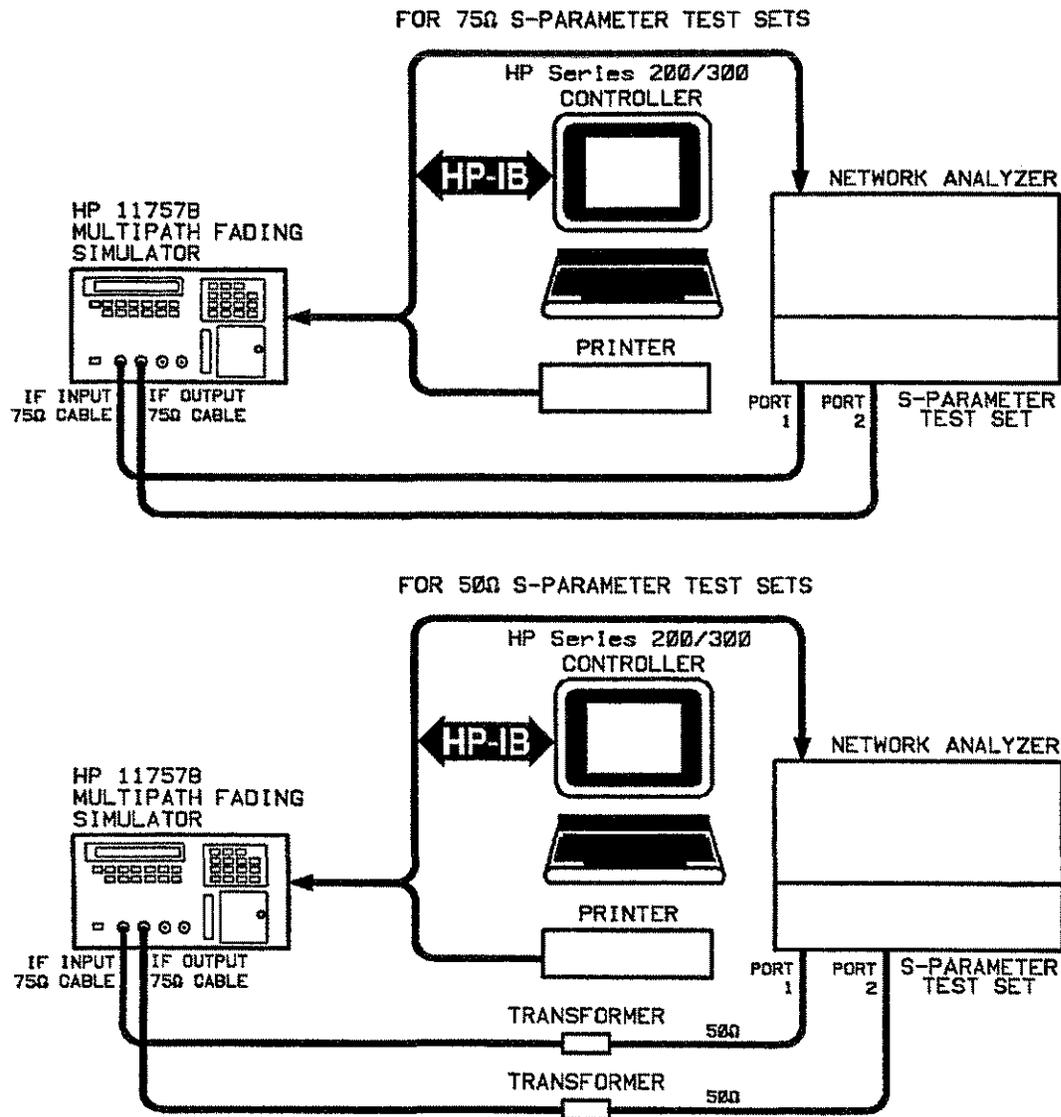

Figure 1-8. Automated Performance Test Setup
- Setup** 1. Connect the equipment as shown in figure 1-8.
9. When calibration is finished, reconnect the equipment as shown in Figure 1-8.
7. If any status is "Failed" highlight ADJUST 5 COMPLETE AUTOMATIC ADJUSTMENTS (1, 2, 3, 4) and press **SELECT ITEM**. Leave the equipment set up as shown in figure 1-8..